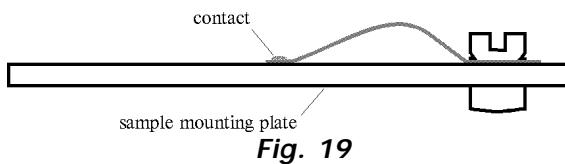

Fig. 19
- b) with bias voltage contact strip for STM-study of thin samples (Fig. 19),